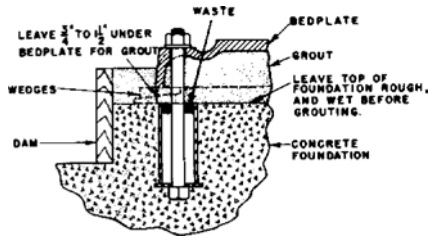

Figure 3: Concrete foundation
The I.D. of the sleeve should be 2-1/2-3 times the bolt diameter. Place a washer between the bolt head and sleeve to hold bolts. See Figure 3: Concrete foundation on page 12.
7. Build wood dam around foundation as shown in Figure 3: Concrete foundation on page 12, and thoroughly wet top surface of foundation. Pour grout in hole provided in top of bedplate. Use of non-shrink grout is recommended. Grout should be thin enough to flow out under the bedplate but not so wet that sand and cement will separate. Grout should be puddled continuously as it is